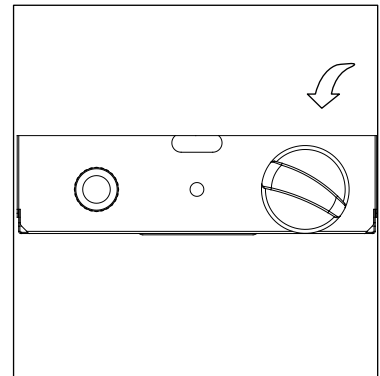

Figure 5
8. Push in and turn the control knob to the "HIGH", then release control knob. If you want a lower temperature, push in the control knob and turn counterclockwise to the "LOW" position. (Figure 5).